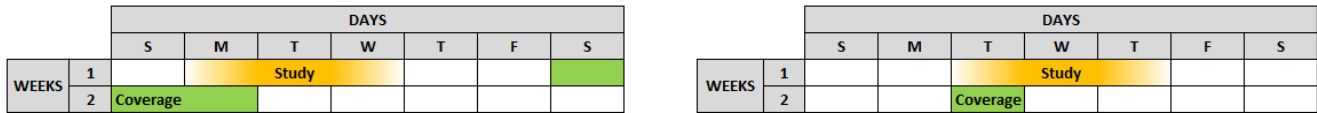

Figure 6: Sample 3 Day AA Process Timeline
This process repeats daily on business days15 with Study and Coverage Periods as identified in Figure 6 below.
- Study Period begins 16:00:00 EST on business days and ends at 15:59:59 EST, 2 business days later as shown in Figure 6.
- Coverage Period begins 00:00:00 EST on the 5th business day after the beginning of the Study Period and ends at 23:59:59 EST on the 5th business day after the beginning of the Study Period as shown in Figure 6.